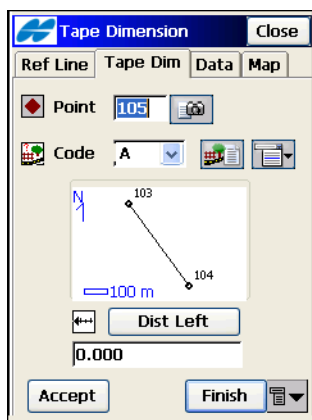

Figure 8-32. Tape Dimension – Tape Dim Tab
3. On the *Tape Dim* tab, set the parameters for performing the survey: the name and code of the surveyed point, and the direction (left or right of the previous line) and the distance of the movement from the previous point (Figure 8-32).
- To connect the first and the last point with a line, tap **Finish** and select the *Close Polygon* item from the drop-down menu (Figure 8-32 on page 8-30).
- To calculate the difference between the last and the first point, tap **Finish**, then select the *Calc Closure* item from the menu (Figure 8-32 on page 8-30).